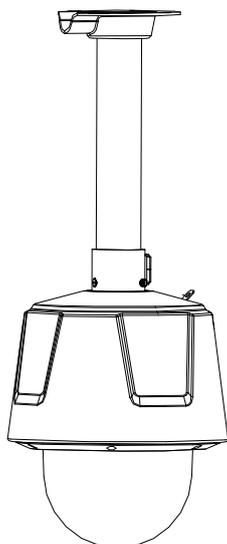

Figure 3-75 Secure the Speed Dome
5) Secure the two lock screws with the Allen wrench as shown in Figure 3-75.